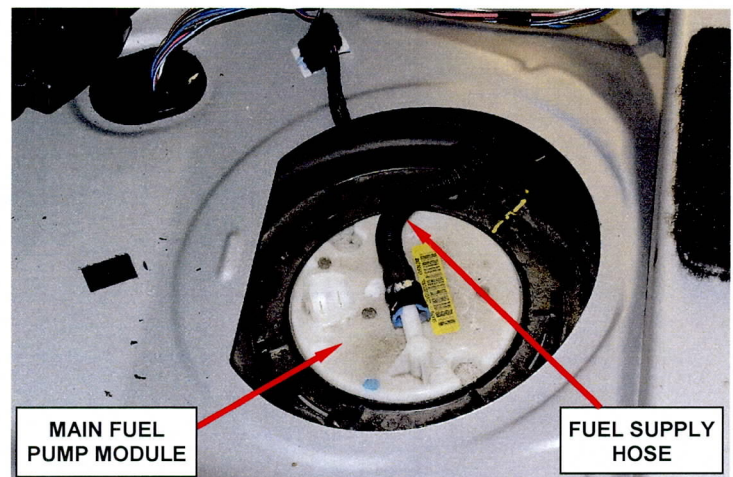

Figure 2 – Main Fuel Pump Module Fuel Supply Hose
5. Disconnect the fuel supply hose at the main fuel pump module (Figure 2).
18. Connect the fuel supply hose to the main fuel pump module (Figure 2).